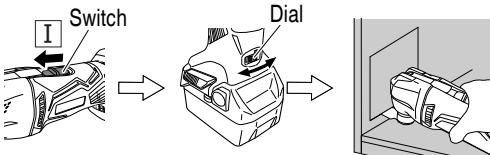

Fig. 10
1. Switch the unit on and use the dial to set the speed of the application tool. (Fig. 10)
2. Lightly place the application tool on the material and move the application tool forward at a pace where the movement isn't slowed. (Fig. 10)